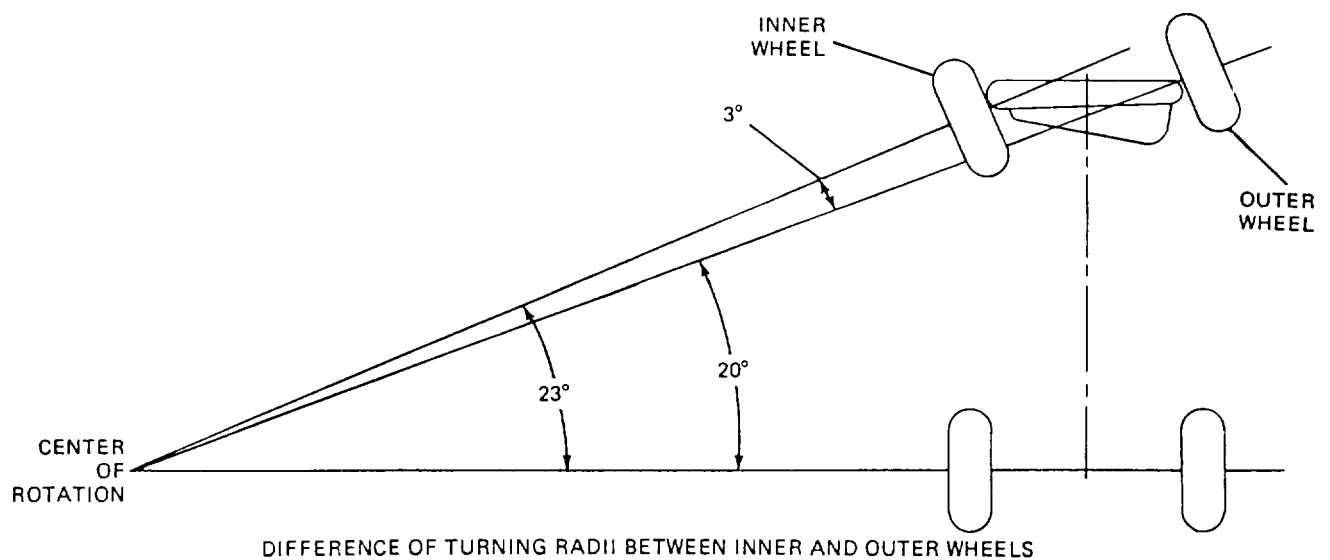

Figure 12-6.—Difference of radii between inner and outer wheels.
5. TURNING RADIUS. The front-end assembly of the modern motor vehicle requires careful design and adjustment because each front wheel is pivoted separately on a steering knuckle. Because of this construction, the front wheels are not in the same radius line (drawn from the center of rotation [fig. 12-6]) when a vehicle is making a turn. Because each wheel should beat right angles to its radius line, it is necessary for the front wheels to assume a toed-out position when rounding curves. If they do not, the tires slip, which causes excessive tire wear. The inner wheel (the one closer to the center of rotation) turns more than the outer wheel, so it will travel in a smaller radius. This difference in the turning ratios of the two wheels is called toe-out. It is usually specified as the number of degrees over 20 that the inner wheel is turned when the outer wheel is turned 20 degrees. The-out on turns may be checked, but there is no provision made for its adjustment. The steering linkage must be examined carefully for bent or defective parts if this angle is not within the manufacturer's specifications.